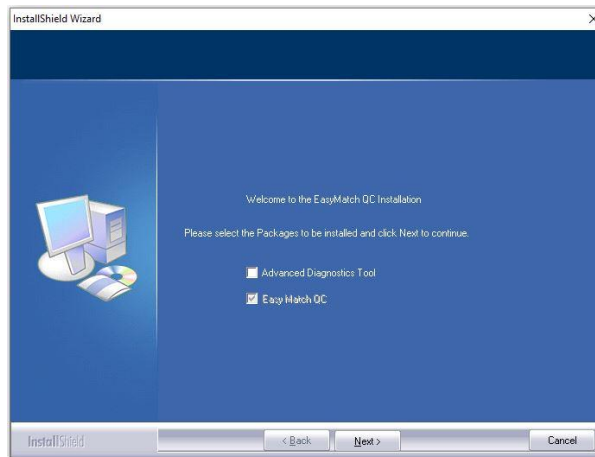

Figure 2. Installation for Flash Drive
- a. If the user has a HunterLab USB hardware key, then it can be used with a new sensor on the same computer. Return to Install the Software, Step 5 (Figure 2), and select **SENTINEL KEY** to continue.